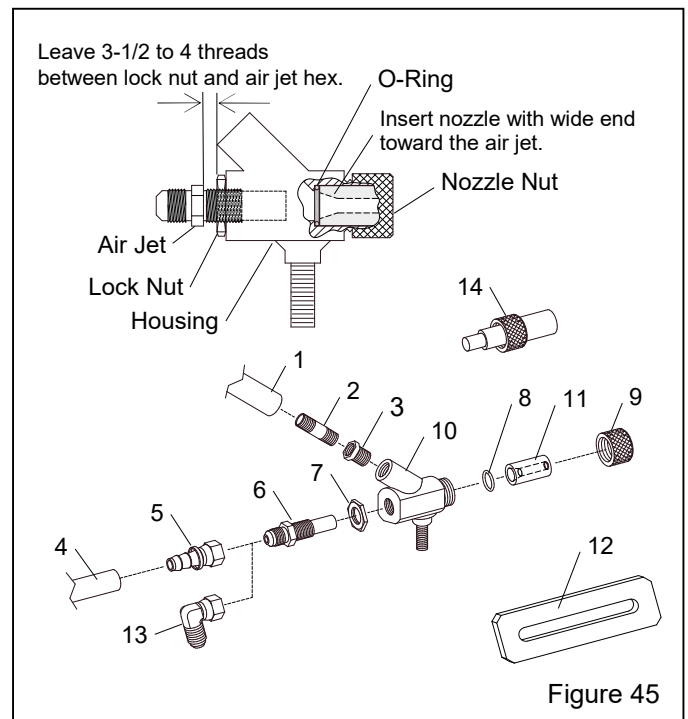

Figure 45
9.5 Auto Blast Gun Assembly – Figure 45